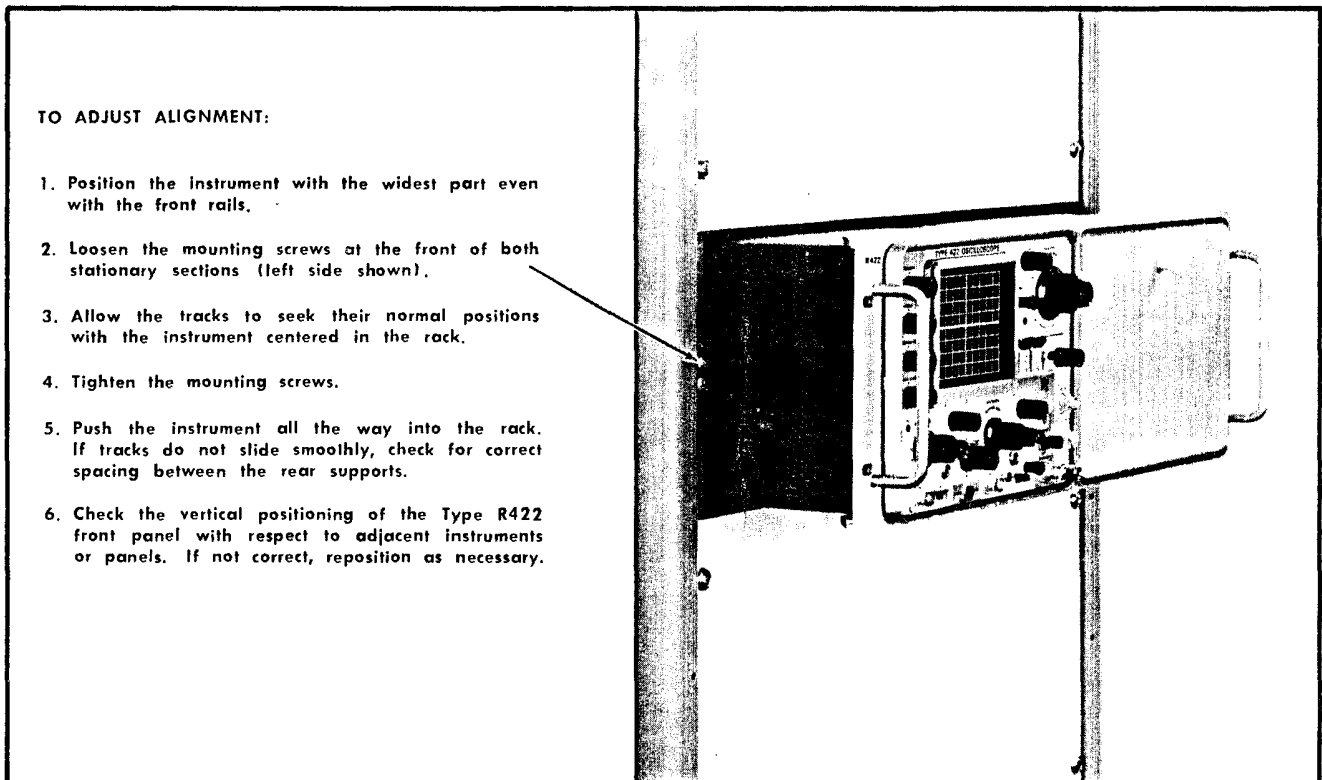

Fig. 10-8. Alignment adjustments for correct operation.
10. Adjust the alignment of the stationary sections according to the procedure outlined in Fig. 10-8. (If the rear alignment is changed, recheck the rear support pins for correct alignment.)